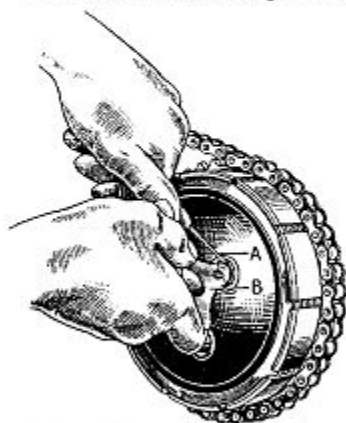

Fig. 5. To Remove Clutch Spring Nuts.
- (2) Unscrew the nut securing the generator rotor-engine sprocket assembly, and carefully ease the rotor off the shaft. Mk. 1 and 2 have an engine shock absorber on the drive shaft.
- (3) Remove the four slotted clutch nuts with the special screwdriver provided in the tool kit, at the same time depressing the spring underneath with a thin screwdriver (Fig. 5), to prevent the "pip" on the underside of the clutch nut locking in the spring.